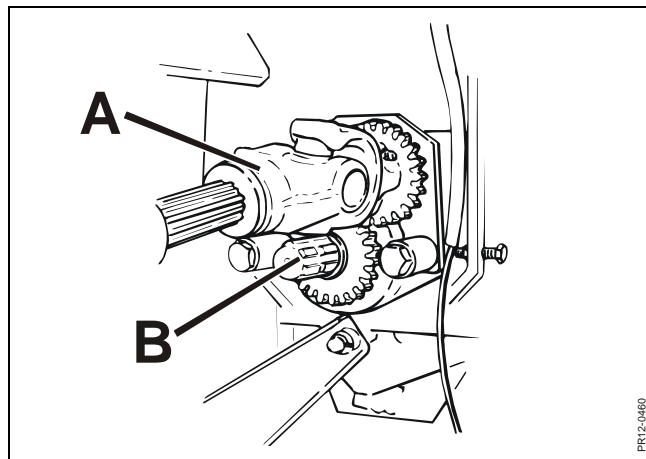

Fig. 5-6
- Fig. 5-6** 4) After reversing disconnect the tractor's power take-off again, stop the tractor, and move the PTO shaft **A** for the rotor back to the pin **B** for drive of the rotor.